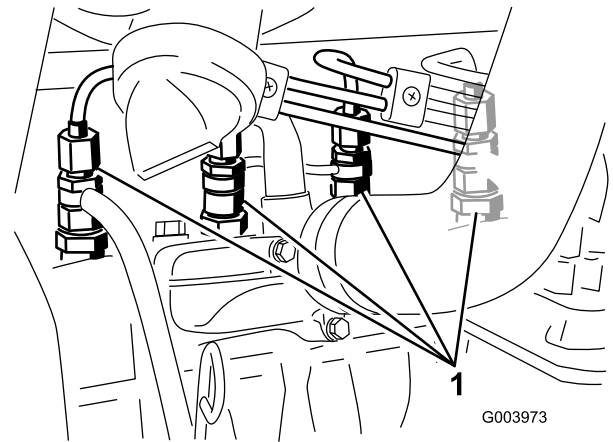

Figure 47
1. Loosen the pipe connection to the No. 1 nozzle and holder assembly (Figure 47).